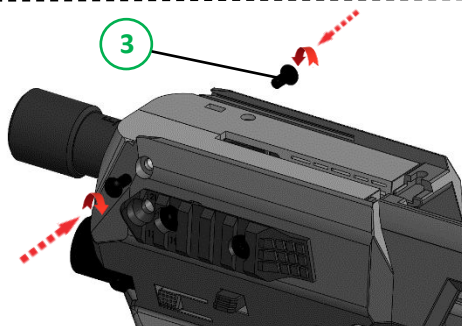
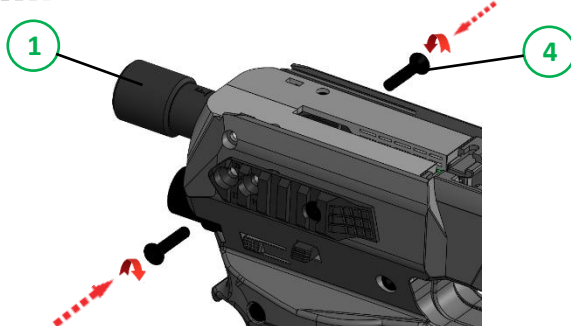

FIGURE 77
FIGURE 78
Screw in the front aluminum tube housing screw (3) (x2) using a 2.5mm Allen wrench (supplied) (FIGURE 77). Make sure that the front aluminum tube (1) is at the right position (See **SECTION 3, STEP 1**) and then screw in the front aluminum tube screw (4) (x2) using a 3mm Allen wrench (FIGURE 78).